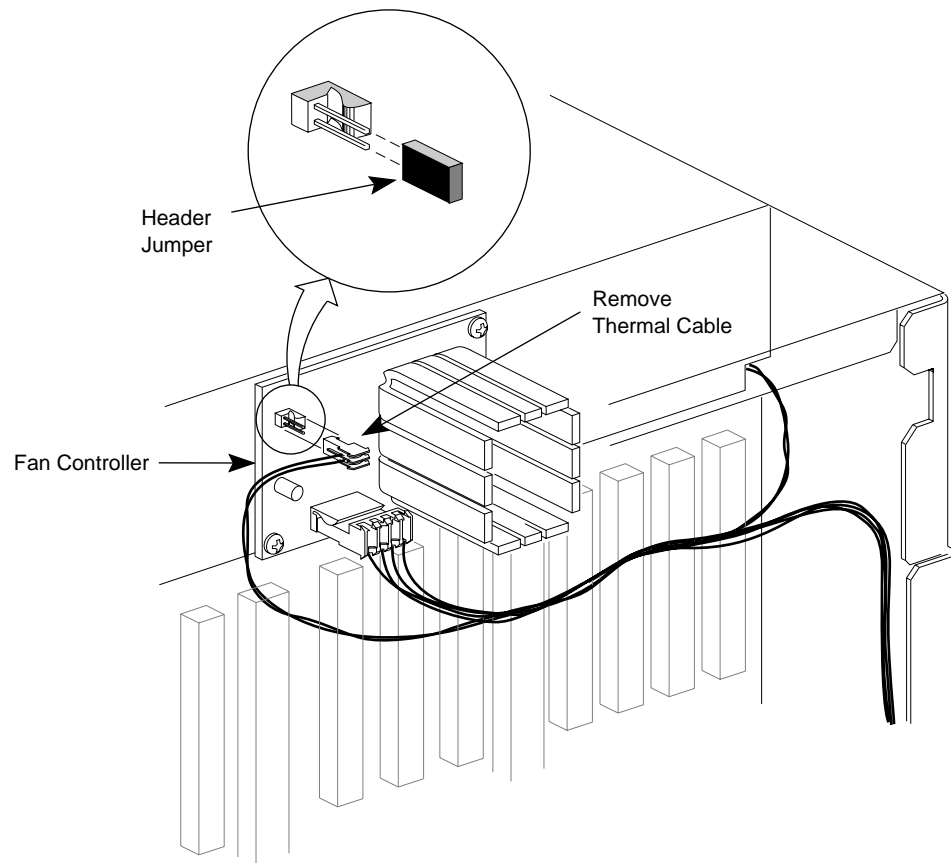

Figure 3-15 Jumpering the Thermal Shutdown Header for RealityEngine
3. Locate the fan controller board, which is mounted just above the backplane, as shown in Figure 3-15.
4. Remove the thermal sense connector from the two-pin header on the fan controller board, as shown in Figure 3-15.
5. Place a jumper across the pins, as shown in Figure 3-15.